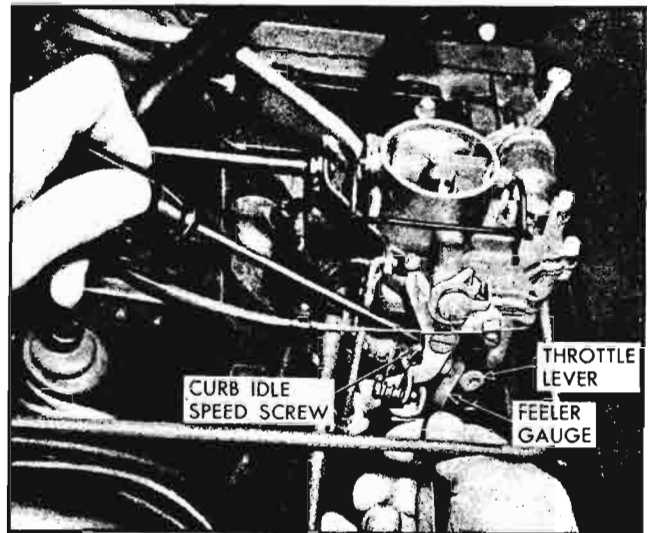

Fig. 7-7—Curb Idle Screw Adjustment
- b. **Curb Idle Speed**—Place a .003" feeler gauge between the curb idle speed screw and the carburetor throttle shaft lever (fig. 7-7). Turn the screw until it just contacts the gauge, then remove the gauge and turn the screw 1½ more turns to set the throttle valve.